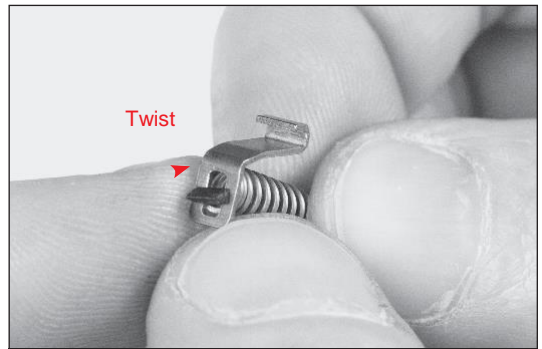
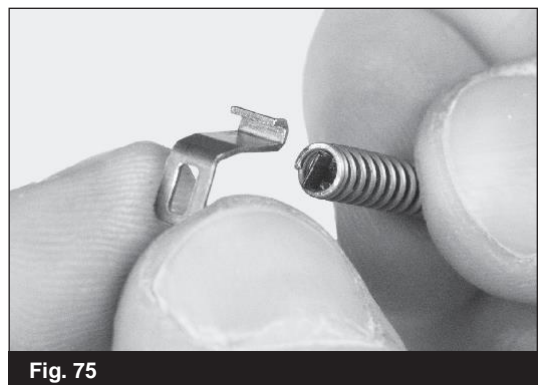

Fig. 74
Fig. 75
- While holding the bearing as shown (Fig. 74), carefully twist the trigger spring assembly to align with the slot allowing the spring and the rod to be removed. (Fig. 75)